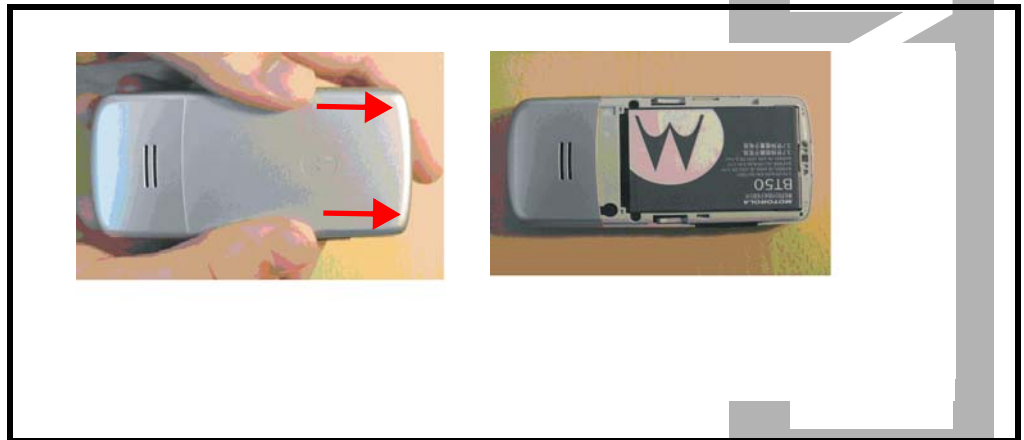

Figure 4. Removing the Battery Door
1. Press and push the battery door forward to the direction illustrated in Figure 4.